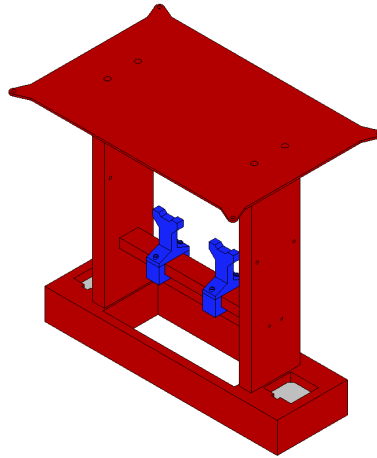

Figure 28: GPR holder assembly with the *VNA mount* attached on top.
6. Place the *VNA mount* element on top of the assembly. Secure the part to the *side panel* elements using four (4) M5 screws. The screws are attached from the top side of the *VNA mount*. The assembly is shown on figure 28.